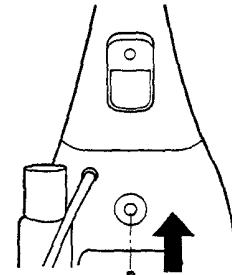

Fig.2
- 2 Line up the small hole on the handle with the small hole on the rear of the vacuum cleaner and insert the screw. (Fig. 2) Be sure the screw is tightened securely.